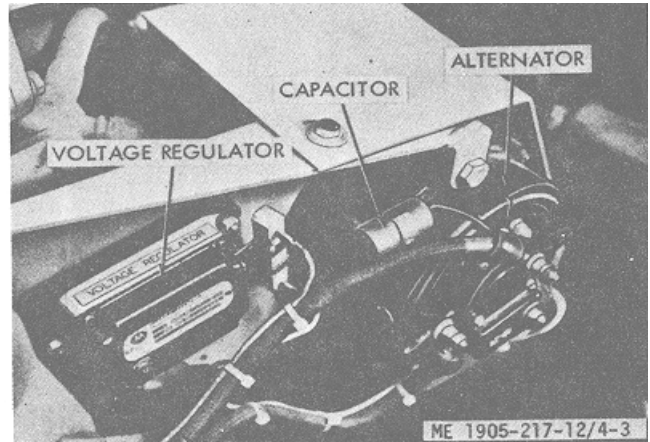

Figure 4-3. Interference suppression components.
*a. Primary Suppression Components.* The primary suppression components are those whose primary function is to suppress radio interference. These components are identified in figure 4-3.
Refer to figure 4-3 and replace the radio interference suppression components.